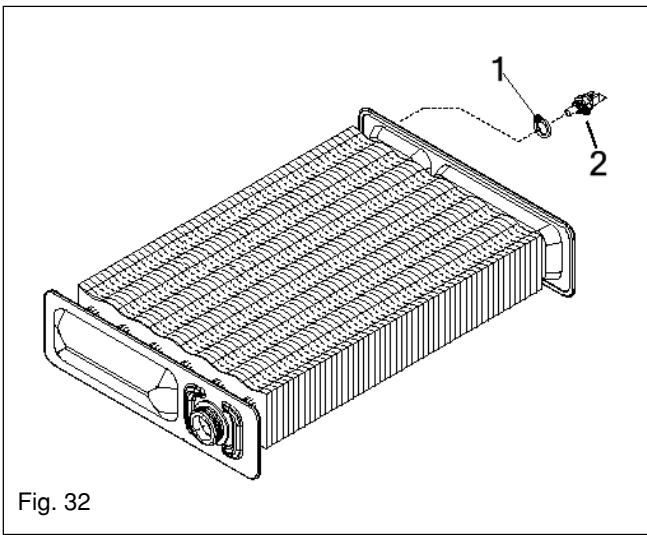

Fig. 32
6.10 PRIMARY THERMISTOR (see fig. 32)